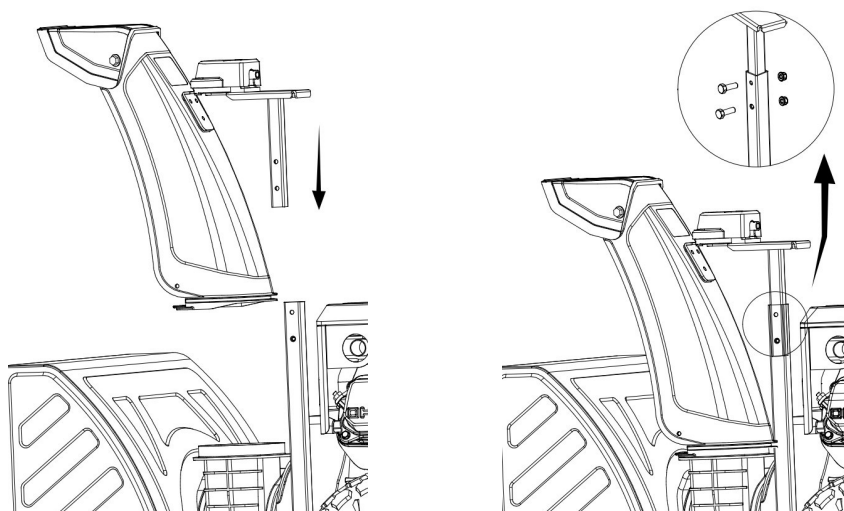

Figure 5
1. Insert Lower Discharge Chute/Support Tube Assembly into the designated Chute opening for the Lower Discharge Chute, while inserting the Support Tube into the designated base of the Frame. (See Figure 5).
2. Secure Support Tube to base with (2) Screws and nuts provided.